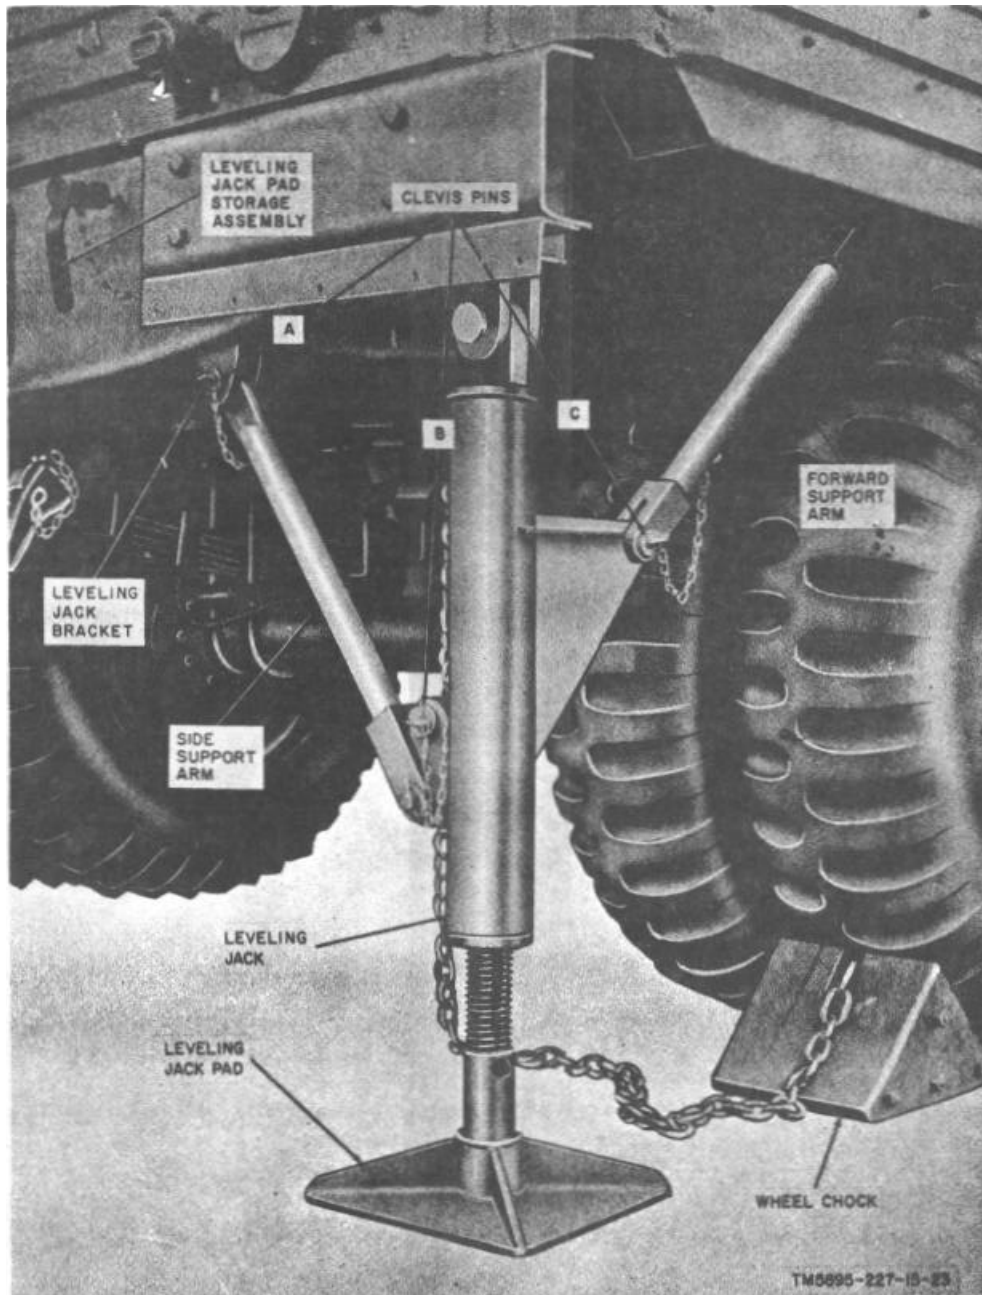

Figure 28. Semitrailer, Van, Electronic Equipment V-189/MS-25, leveling jack arrangement.
a. Uncoupling Van. After the van has been positioned at the operating site, uncouple the van from the tractor as in (1) through (12) below.
- (1) Apply the van brakes by operating the airbrake controller in the tractor cab.
- (2) Place the wheel chocks under the rear wheels of the van (fig. 28).
- (1) Remove clevis pins A and B (fig. 28) which secure the side support arm and the leveling jack in the retracted position (not shown) on the van. Allow the leveling jack assembly to swing downward.
- (2) Position the free end of the side support arm into the leveling jack bracket (fig. 28) and insert clevis pins A and B as shown.
- (3) Remove clevis pin C which secures the forward support arm to the underside of the van. Position the forward support arm
- (4) Remove the leveling jack pads from their storage locations (fig. 8) and position a pad at each leveling jack (fig. 28).
- (5) Remove the lever bars (adjacent to the pintle hook, fig. 8). Insert a lever bar into the hole at the base of each leveling jack (fig. 28).
- (6) Rotate the lever bar until the leveling jack is seated in the leveling jack pad. Subsequent rotation may be required for leveling the van (c below).